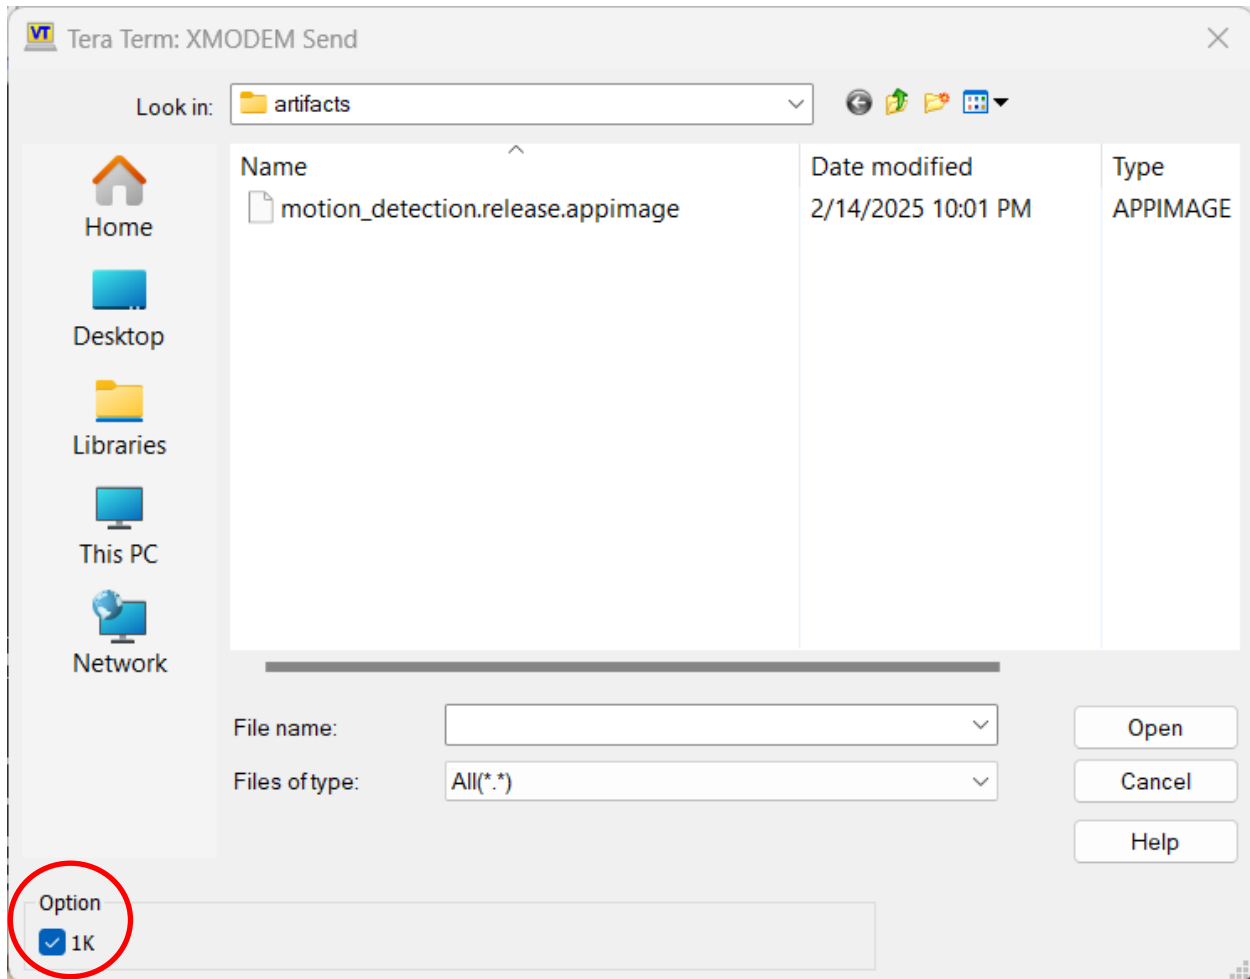

Figure 4. XModem File Transfer Selection Dialog
4. Ensure that you select the “1K” option checkbox as shown in Figure 4.